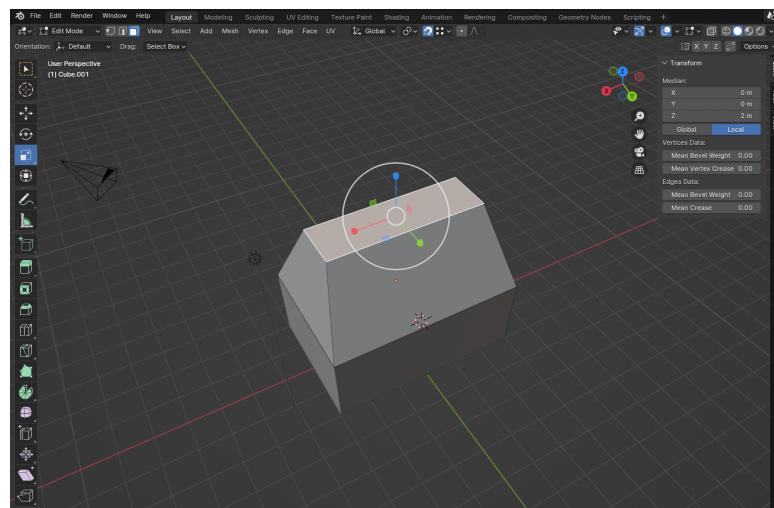

Figure 1.5: Connecting objects using *Snap To Vertex* tool.
8. Select the top polygon of the top object and scale it to resemble the roof of a house (see Fig. 1.5).